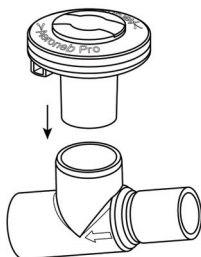
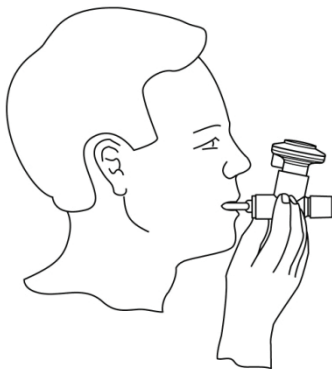

Figure 3: Connecting nebulizer unit to T-piece
Figure 14: Connecting to a mouthpiece
4. Connect the nebulizer unit to the T-piece by pushing the nebulizer unit firmly onto the T-piece (Figure 3).
When using a mouthpiece, connect the nebulizer unit to the T-piece as shown in Figure 3 in this manual, and then connect the T-piece to the mouthpiece by pushing the parts firmly together (Figure 14).
CAUTION: To ensure proper nebulization, maintain the nebulizer in a vertical orientation (Figure 14).